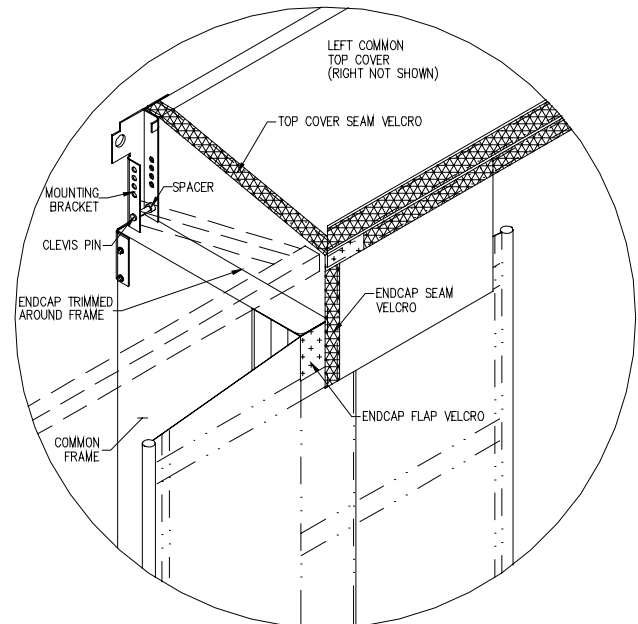

FIGURE 8
1. Starting from either side of the common member side frame, lift the top curtain/bar assembly while still packaged together and locate across the already installed side frames. Position it on top so as the side arms on the top frame are facing the wall and land between the mounting brackets on side frames, particularly on side of the common member. (See Figure 8)
7. Pull the end cap located on the common member side frame end, down into position. (See Figure 8) The endcap is designed to fit around the mounting bracket and top of side frame. There should be approximately 1 in (25 mm) of material left over. This material can be used to trim to fit or left loose.